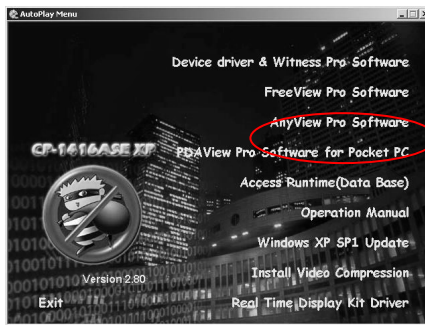

Fig. 2-11
Step 1: Click **“AnyView Pro Software”**, as **Fig. 2-11**.